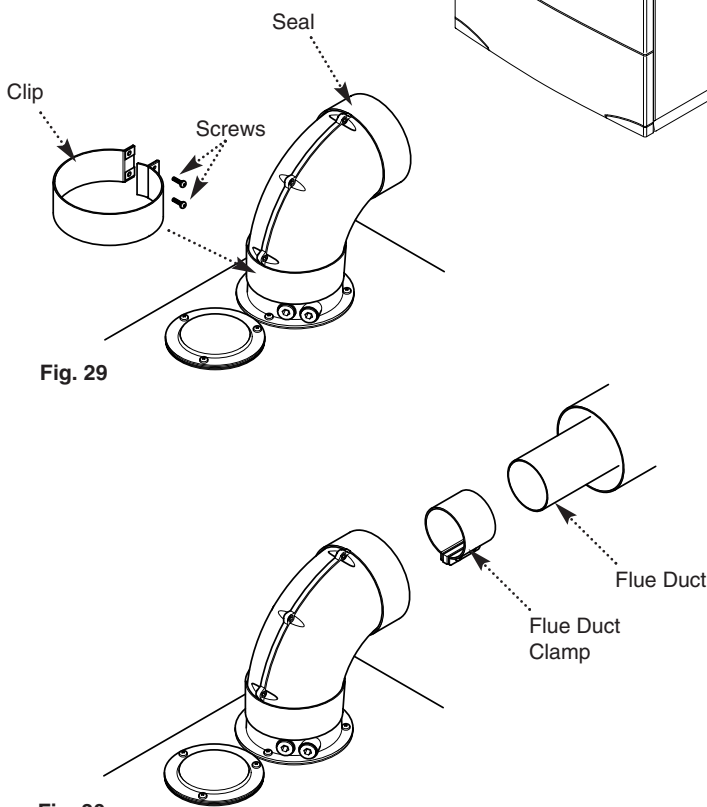

Fig. 29
10. Remove the screws from one of the clips provided. Prise the clip apart and fit it over the seal. Set the elbow to the required angle (Fig. 29).